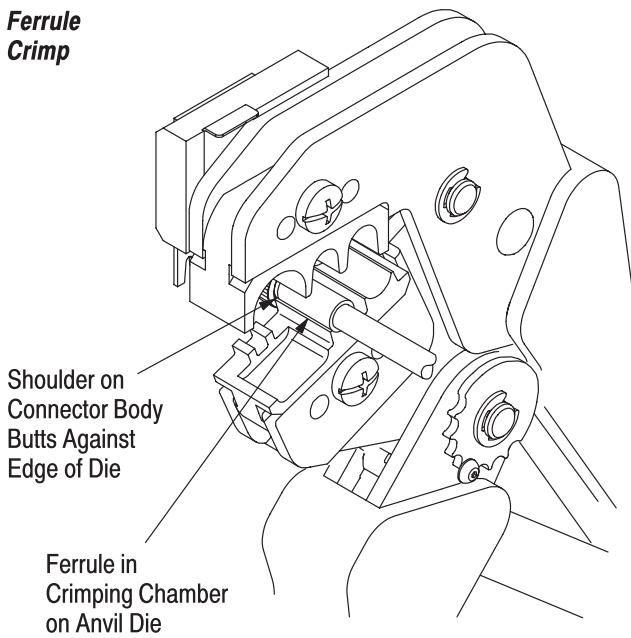

Figure 4
**4.2. Crimping the Ferrule** (Figure 4)